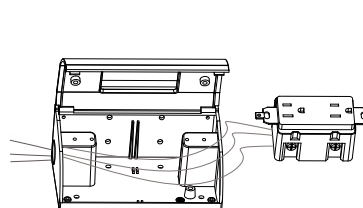
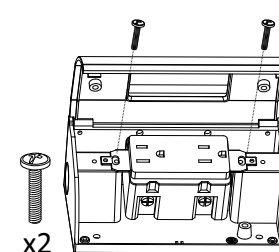

Fig. 6
Fig. 7
3. Pass the power cord through the installation hole and connect it to the corresponding terminals of the module (Fig. 6). Secure the module with Phillips flat head screws (Fig. 7).